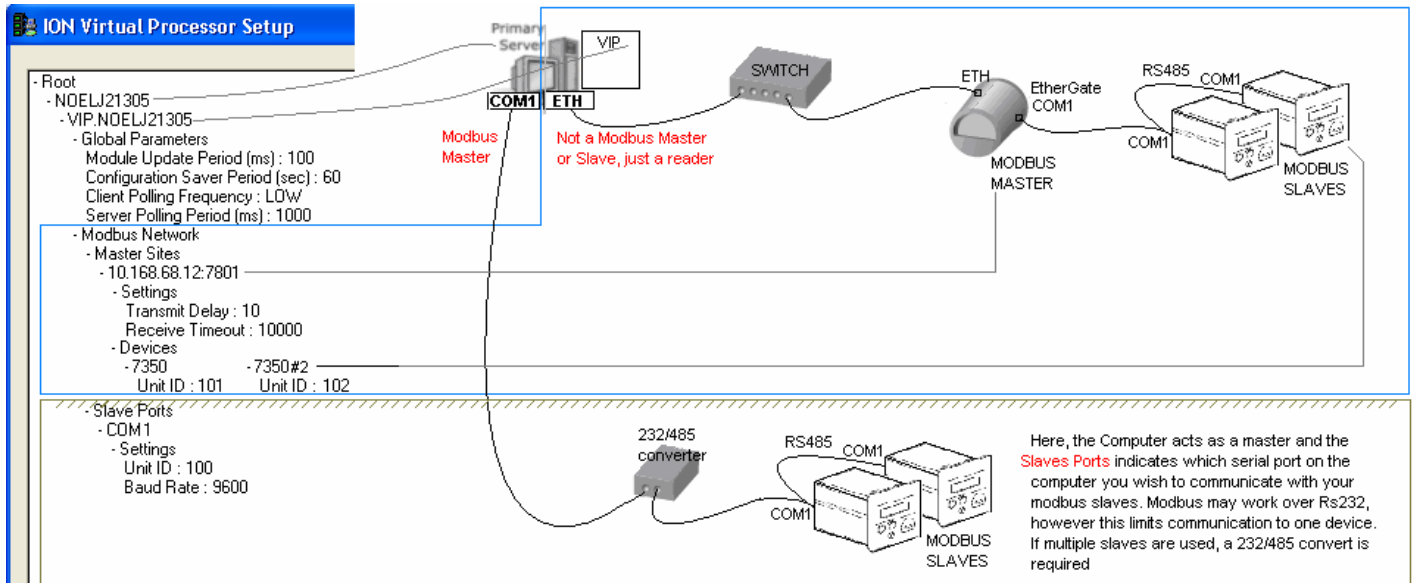

Figure 4.0: VIP Setup tool - Explained
- First, the tree in the Virtual Processor Setup tool is explained in Fig 4.0. The network of interest is the blue box circling the tree item “- Modbus Network”, however if the computer’s serial port is to be used to connect to slaves, refer to the lower hatched-box that shows how to use the Virtual Processor Setup tool to setup ‘Slave Ports’.
The TCP/IP Port refers to the serial communications ports on the back of the Modbus master (Meter) as shown by COM1 in Fig 4.0. If the downstream Modbus
- If there are more than one slave, press the add button to add the first device. The window stays open so that the information for the second can be added. Press add and continue this process. Click OK in Fig 4.0 only when all the slaves have been added.